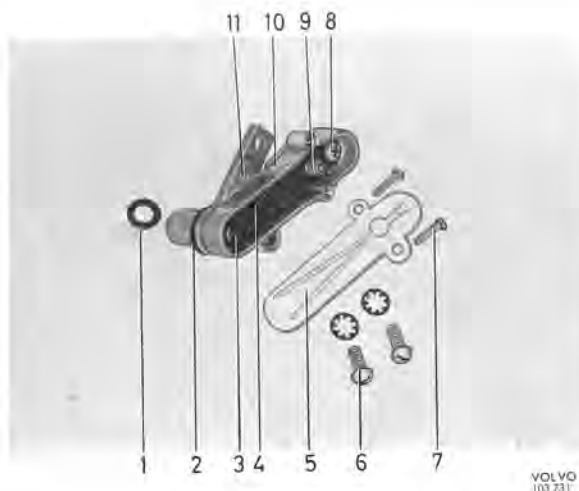

Fig. 2-80. Temperature compensator
ally when the weather is warm, check the function of the temperature compensator by removing the plastic cover and pressing in the valve (3, Fig. 2-80). This should move under very light pressure and return to its position without sticking. This applies at a temperature above 80° F. The valve starts opening at 70°—77° F.
The temperature compensator is replaced complete. It is removed from the carburetor by unscrewing the screws. (6, Fig. 2-80). Take out the old seal (1) from the carburetor and fit a new one. Place a new seal (2) on the temperature compensator and fit the compensator. The temperature compensator is marked "60" (see 11, Fig. 2-80).